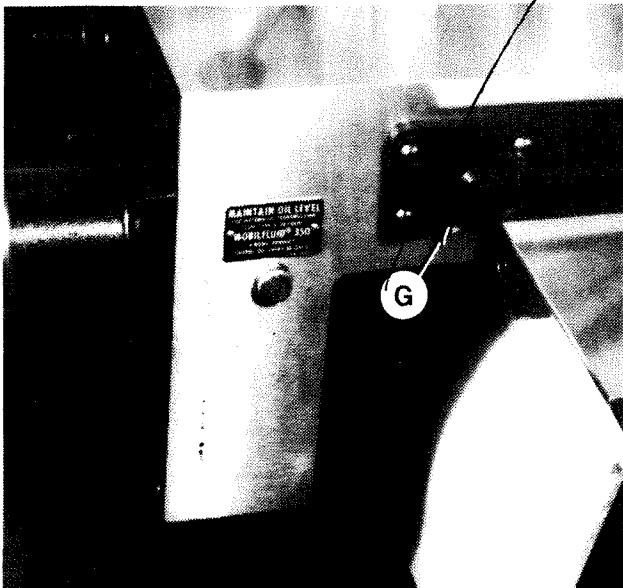
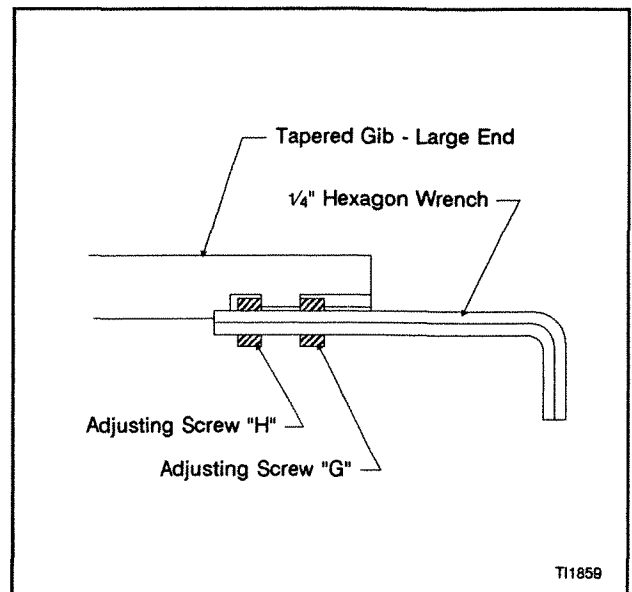

Figure 1.31 - Gib Adjustment Screw
Figure 1.32 - Gib Adjustment Illustration
After a period of continued use, it may become necessary to adjust the carriage gib. The gib is the tapered type and adjustment is made from the large end at "G", Figure 1.31 .
1. Insert a $\frac{1}{4}$ " hexagon wrench into adjusting screw "G", Figures 1.31 and Figure 1.32 .
3. Push the wrench through adjusting screw "G" and into adjusting screw "H", Figure 1.32 .